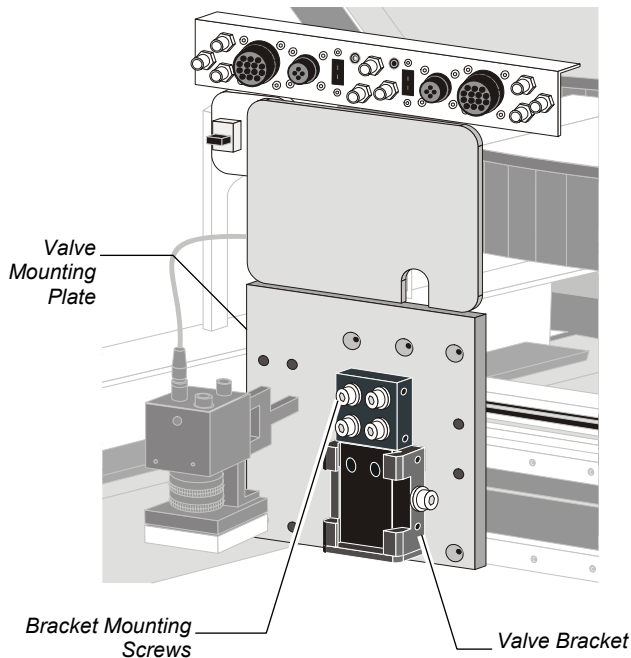

Figure 3-6 Attaching the Valve Bracket (M-2000 shown)
3. Use a 3 mm hex key to attach the valve bracket to the valve mounting plate (Figure 3-6).